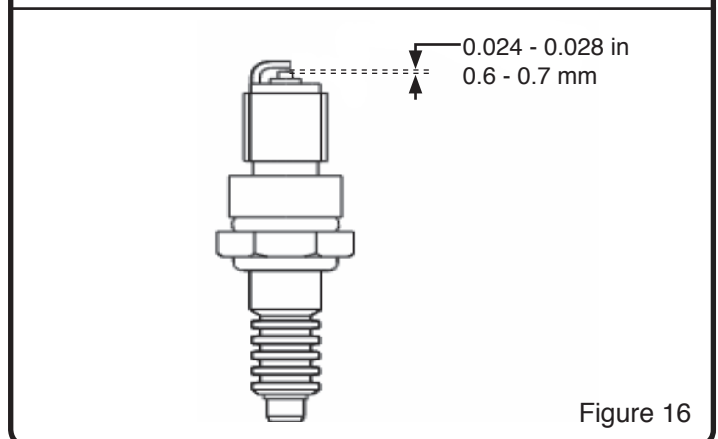

Figure 16
5. Check that the gap of the spark plug is 0.024-0.028 in. (0.6-0.7 mm). (See Figure 16)